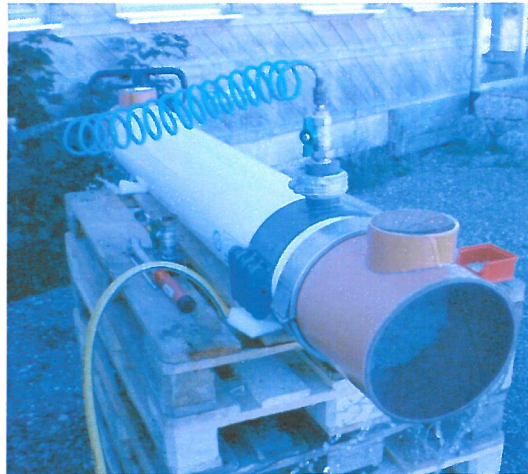

Figure 3: Connection of the pressure line.
11. Disassemble the defect membrane module and put it on a stand horizontally for comfortable operation and repair (see Figure 3).
14. Assemble a ball-valve (f.e. the cleaning attachment) to the permeate connection. (When you use the cleaning attachment, disinfect it first before you connect it). See figure 3